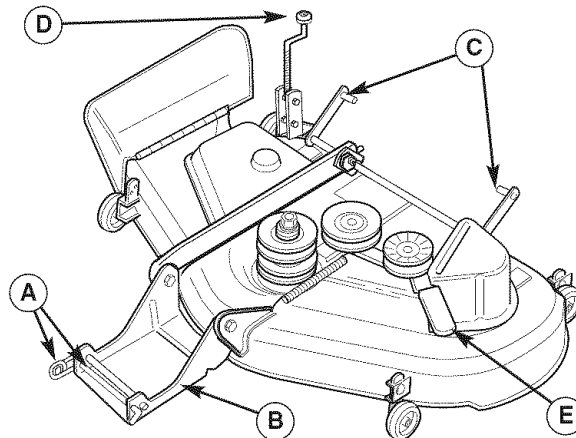

Figure 10. Mower Components
3. Place the cutting height adjustment crank (D, Figure 10) in the lowest cutting position.
4. Release tension on the drive belt using the mower belt release lever (E, Figure 10) and remove the drive belt from the engine pulley.
5. Disconnect the front hitch by removing the hitch rod and clip (A, Figures 10 & 11), and lifting the mower hitch (B) up and off the rider hitch bracket (D).
6. Slide the mower deck forward until the rear mower supports (C) disengage the frame of the rider.
2. Place the cutting height adjustment crank (D, Figure 10) in the lowest cutting position.